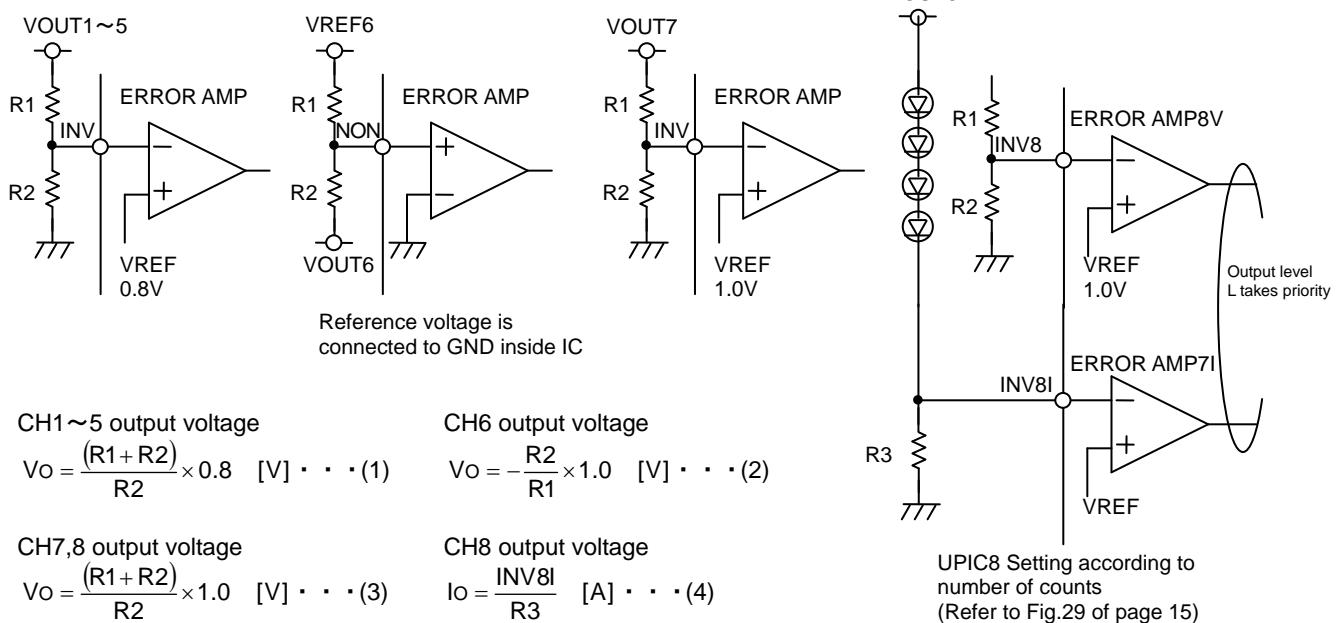

Fig.31 Feedback resistor setting method
The reference voltage of CH1 ~ 5's ERROR AMP is 0.8V. Please refer to Formula (1) in Fig.31 for determining the output voltage.
The reference voltage of CH6's ERROR AMP is connected to GND inside the IC. Therefore, a high-accuracy regulator can be configured if setting by the feedback resistance between the outputs of VREF and CH5 as shown in Fig.31. Please refer to Formula (2) in Fig.31 for determining the output voltage. R1 is recommended as more than 20kΩ because the current capacity of VREF is about 100µA.
The reference voltage of CH7's ERROR AMP is 1.0V. Please refer to Formula (3) in Fig.31 for determining the output voltage.
Over voltage setting and output current setting are respectively shown in Formula (3) and (4) in Fig.31.